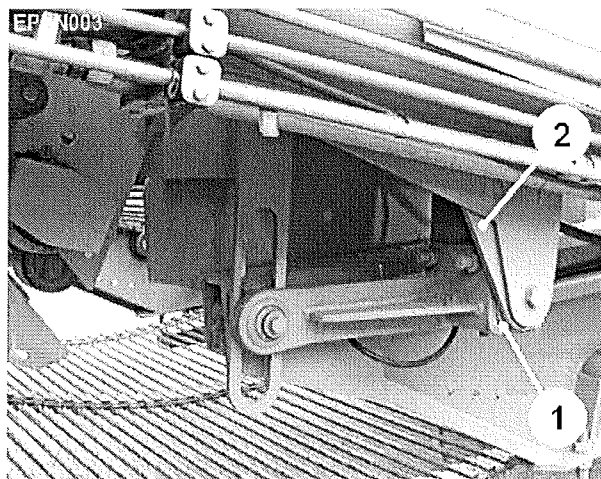

Fig 5
The RH digger chassis member is mounted at the rear on a flexible suspension unit (item 1, figure 5). The suspension unit applies some downward pressure and also allows the digger chassis to follow the independent movement of the depth wheels. Pressure adjustment is made by means of the quadrant plate (item 2, figure 5). Rotating the quadrant plate in an anti- clockwise direction will reduce the pressure. Rotating the plate in a clockwise direction will increase the pressure.